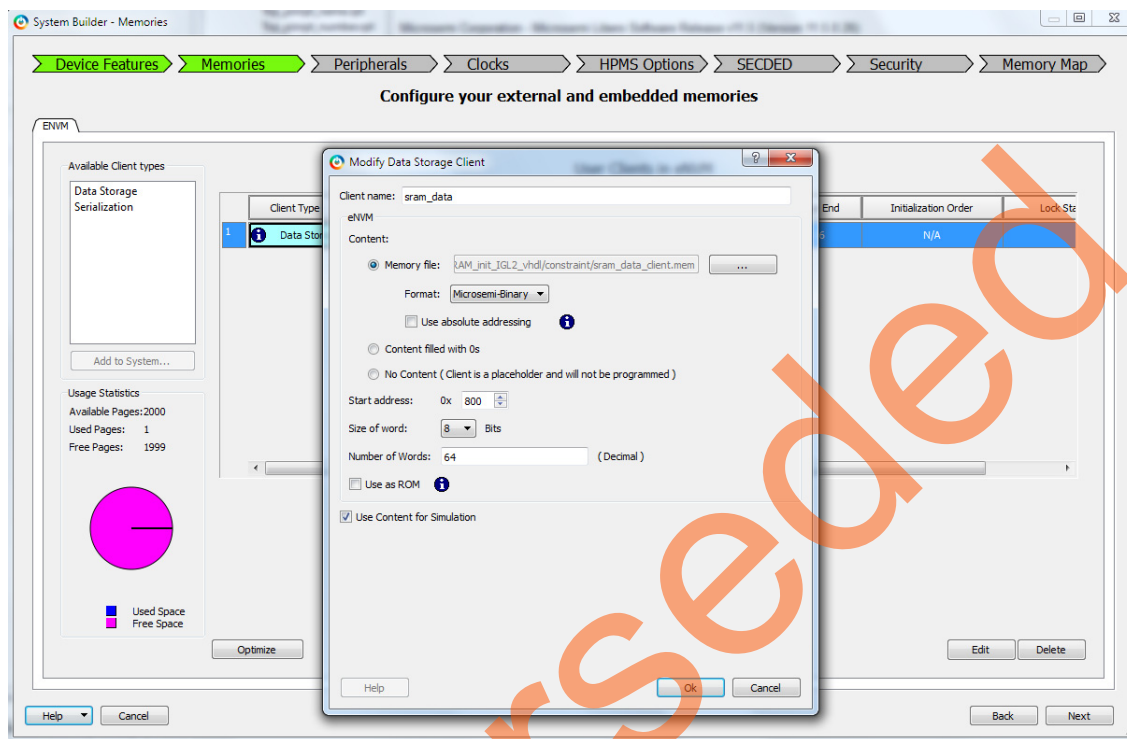
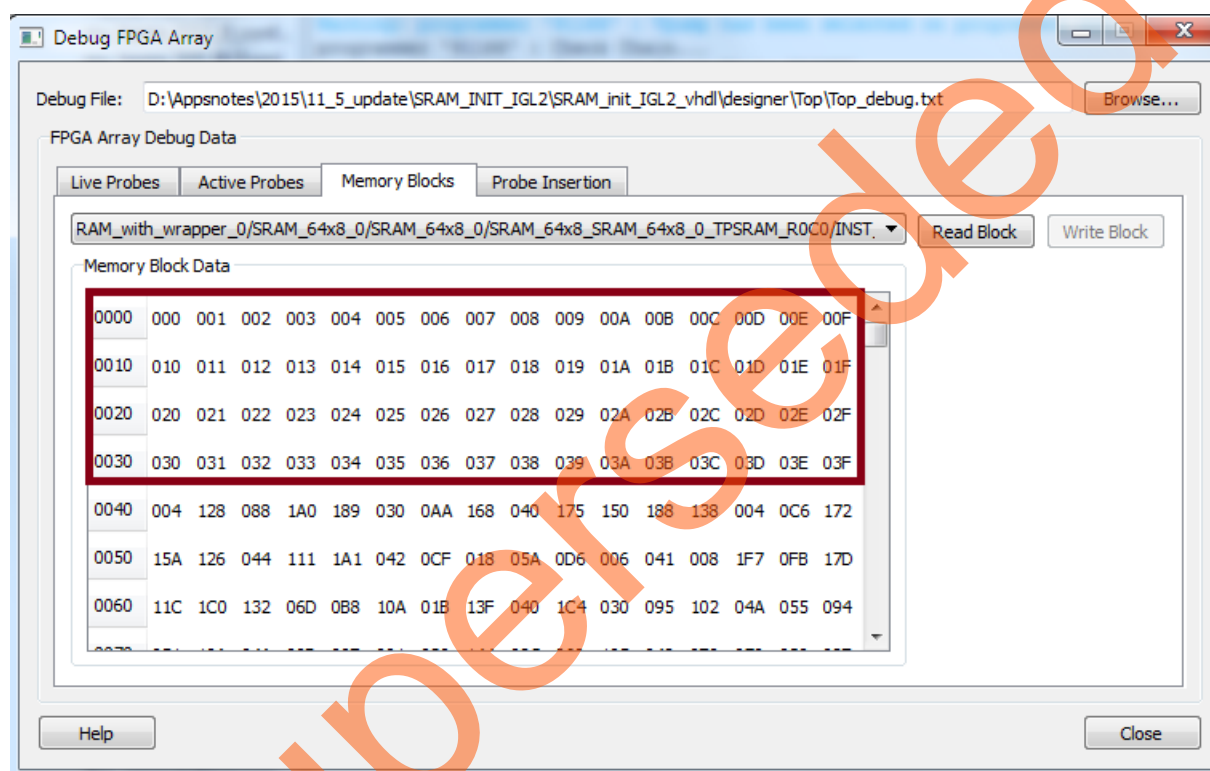

Figure 1 • eNVM Configurator GUI
Figure 6 • HyperTerminal Showing Design Example
In the design examples, a data storage client is created to load the SRAM initialization, which is configured to be 64x8. Figure 1 shows the eNVM Configurator and the data storage client graphical user interface (GUI) in Libero SoC. To allow the eNVM data storage client for simulation, select the **Use Content for Simulation** check box.
4. Open SmartDebug in Libero SOC and look at the SRAM content. The SRAM content must match with a data file that is loaded in eNVM through data client, as shown in Figure 6.
Updated Figure 1 , Figure 5 , and Figure 6 .	4, 10, and 11